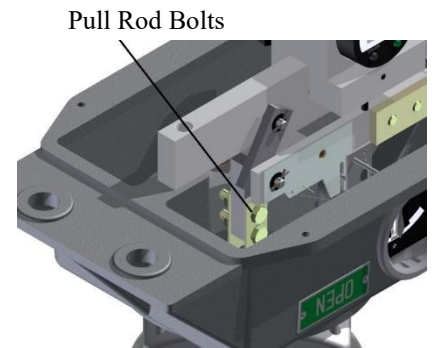

Figure 2
1. With the switch in the closed position loosen all pull rod bolts as shown in Figure 2.